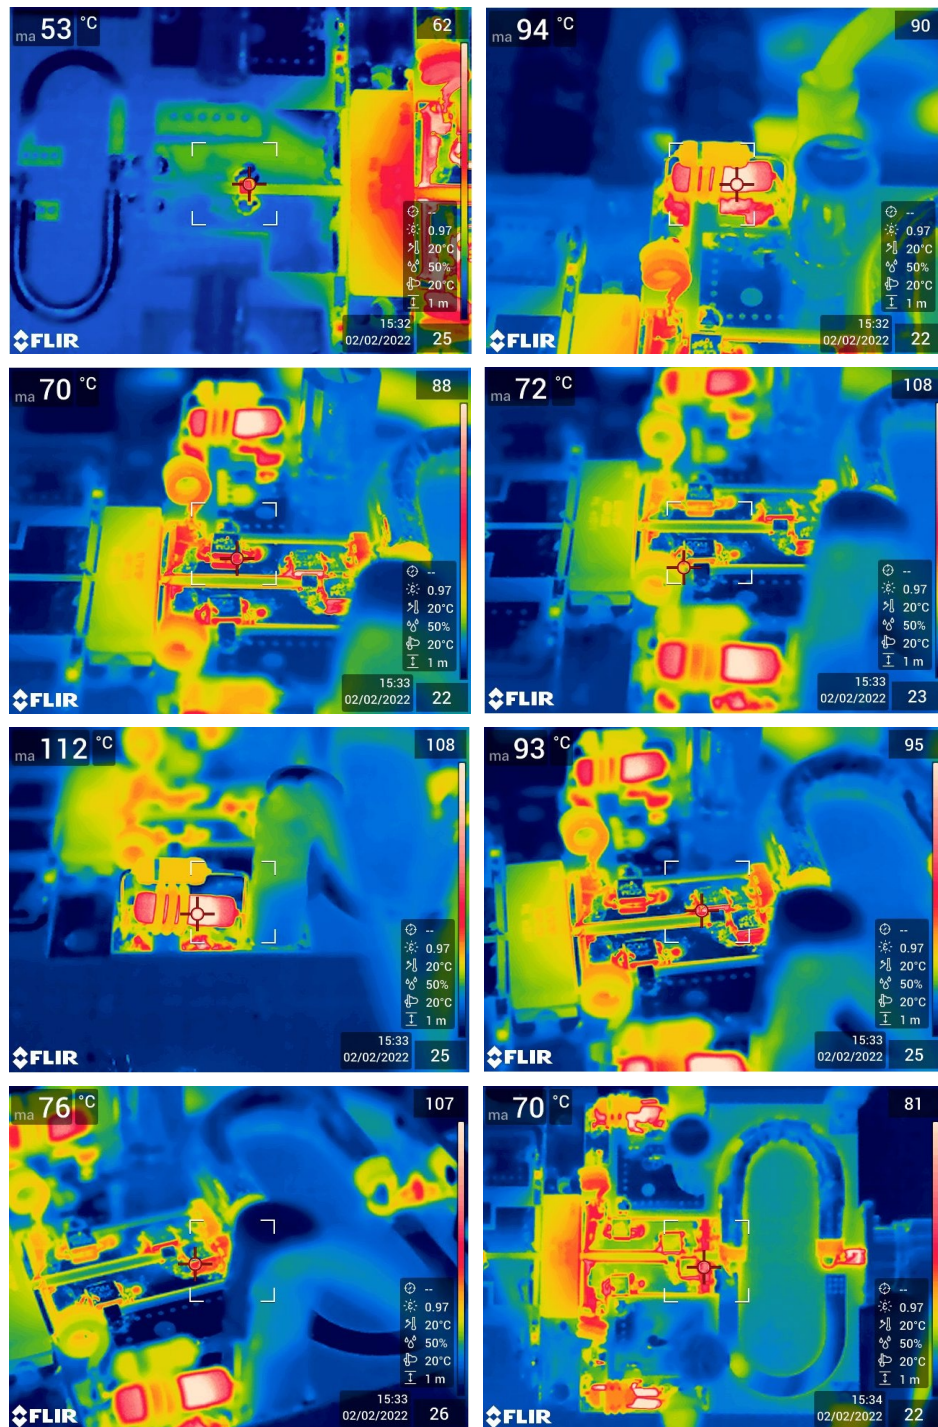

Figure 2 Thermal Images P3dB
- Figure 2 Thermal Images.....P3dB 5